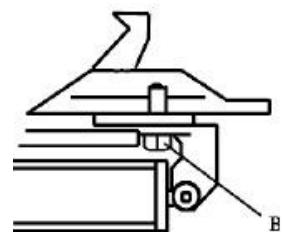

Fig. 10
Note: After the first 20 days of use, retighten the jaws with tightening screws (B) on the turntable (fig 10).